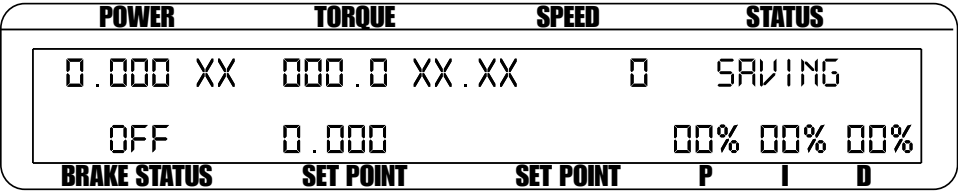

Figure 2–3 *Saving Function Menu*
- 1. Press the SHIFT button two times. The word “SAVING” will appear in the display, as shown in Figure 2–3 *Saving Function Menu*.